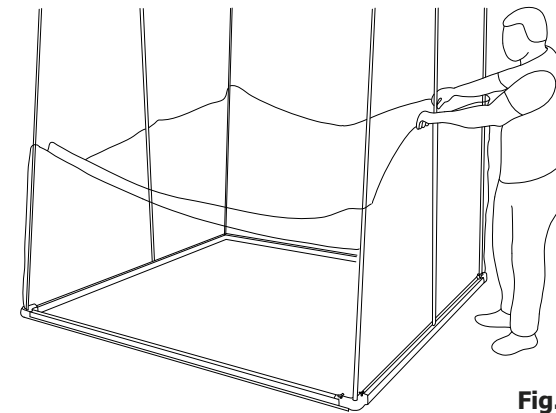

Fig. 3
**Step 7:** Working around the booth, gently pull the liners up the white poles to approximately halfway. Fig. 3 (below)